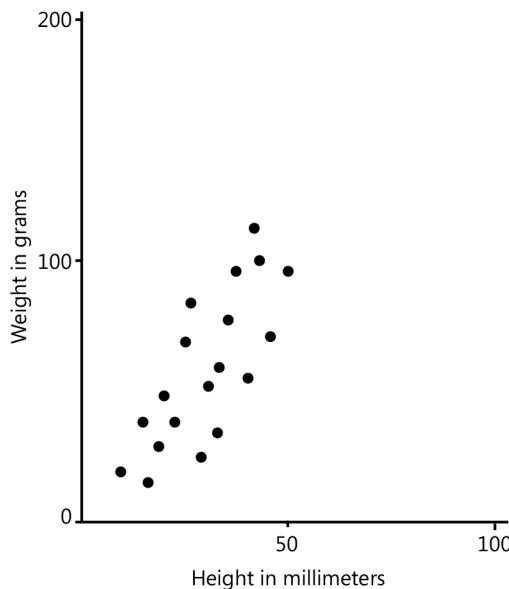

FIGURE 6-7 A scatter diagram shows the relationship between two variables on an x and y axis.
*Scatter diagrams* simply record the relationship between two variables in graphical form. Figure 6-7 shows an example of the scatter diagram.